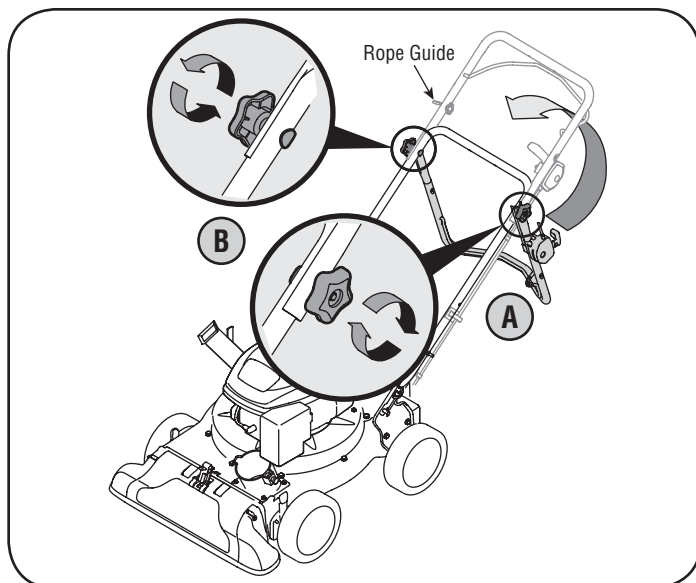

Figure 3
2. a. Unfold the upper handle until it aligns with lower handle. Make sure the rope guide is on the right side of upper handle. See Figure 3.
- b. Secure the two handles by tightening the handle knobs (carriage bolts must be seated properly into the handle). See Figure 3.
3. Pull the two cable ties attached to the cables tight approximately 8 inches from each cable end and place the cables into the cable guide. See Figure 3.